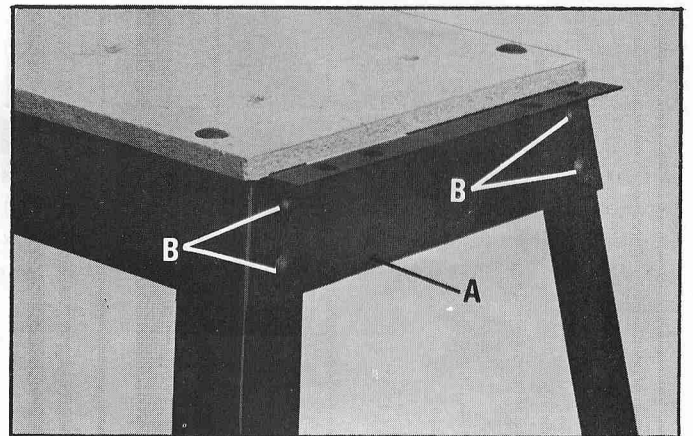

Fig. 25
1. Assemble bracket (A) Fig. 25, to the stand as shown using four 5/16-18 x 3/4" carriage bolts (B). Fasten with four 11/32" flat washers and four 5/16"-18 hex nuts. Do not tighten at this time.